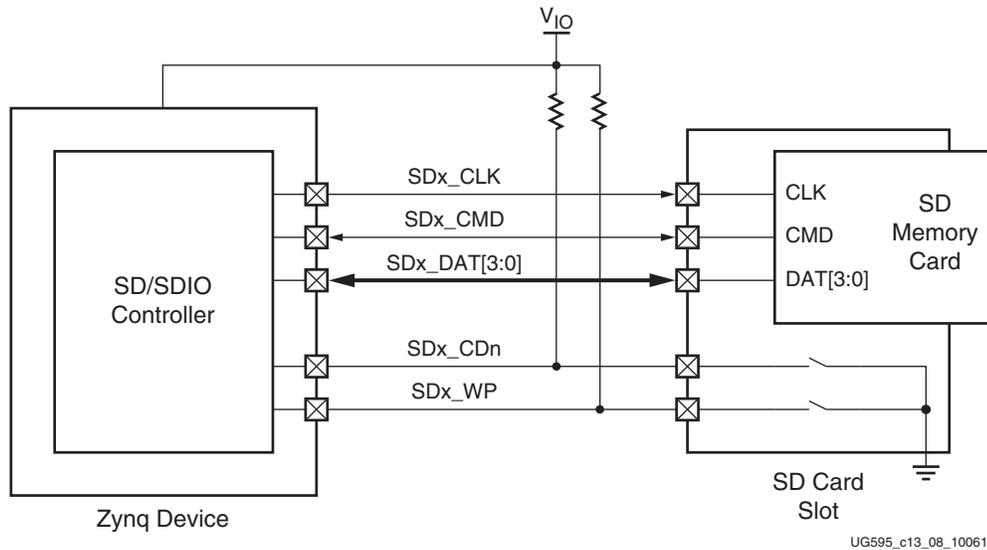

Figure 13-8: SDIO Controller SD Card Detect and Write Protect Diagram
- Secure digital (SD) memory
Some SD card slots provide two additional pins: card detect (CDn) to signal the insertion or presence of a card, and write protect (WP) to report the position of the write protect switch on the memory card. These signals must be externally pulled up. The card normally pulls CDn Low when inserted. If the WP switch is set to protect the card from writes, then the WP signal remains High. The wiring schematic is shown in Figure 13-8. If the card does not function in this manner, then an alternate method is required to signal the insertion or presence of the card. Additional board design information is located in UG933, *Zynq-7000 SoC PCB Design Guide*.